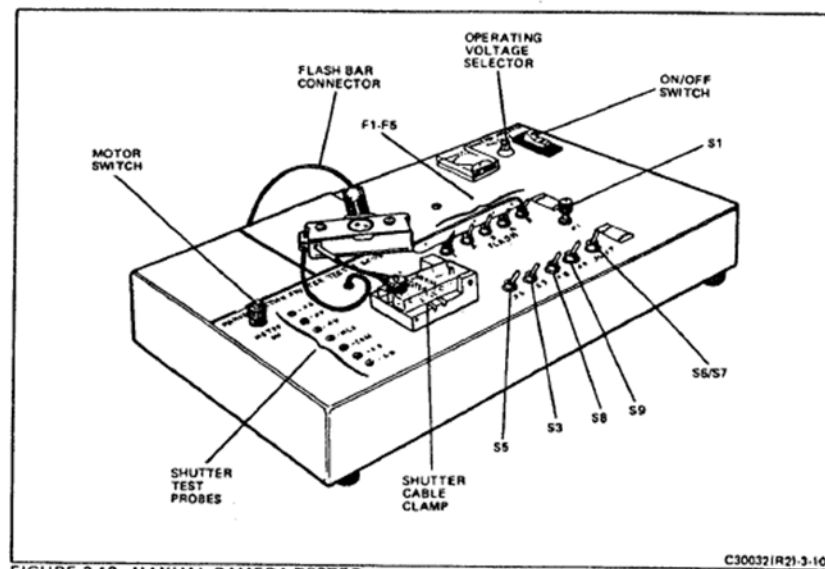

FIGURE 3-10 MANUAL CAMERA TESTER
6. Manual Function Tester (Figure 3-10)